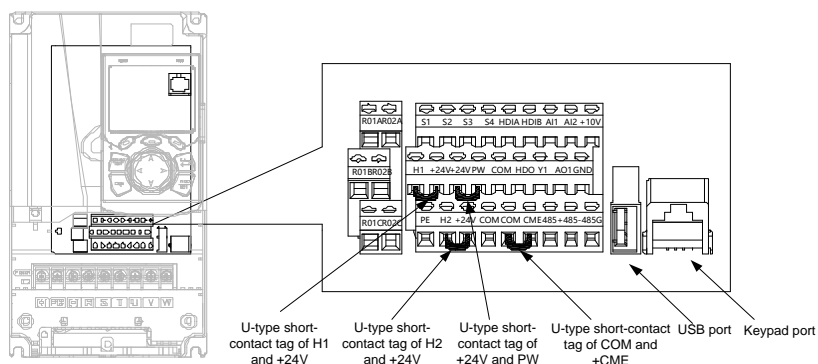

Fig 4.22 Position of U-type short-contact tag
**Note:** As shown in Fig 4.22, the USB port can be used to upgrade the software, and the keypad port can be used to connect an external keypad. The external keypad cannot be used when the keypad of the VFD is used.